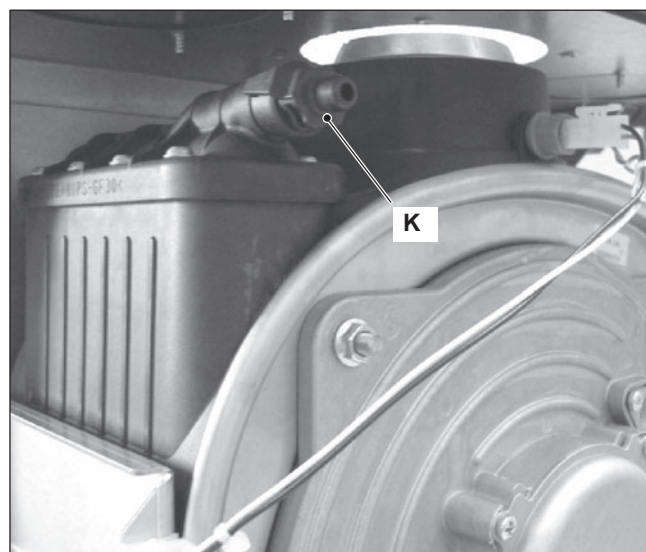

Figure 2.9
- To help the draining of the primary circuit loose the condensing heat exchanger air purger valve K (Figure 2.9).